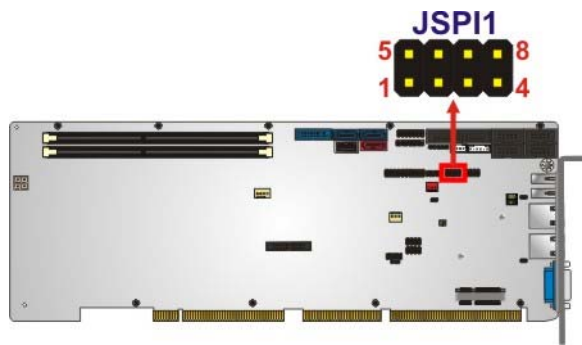

Figure 3-26: SPI Flash Connector Location
- CN Location: See Figure 3-26